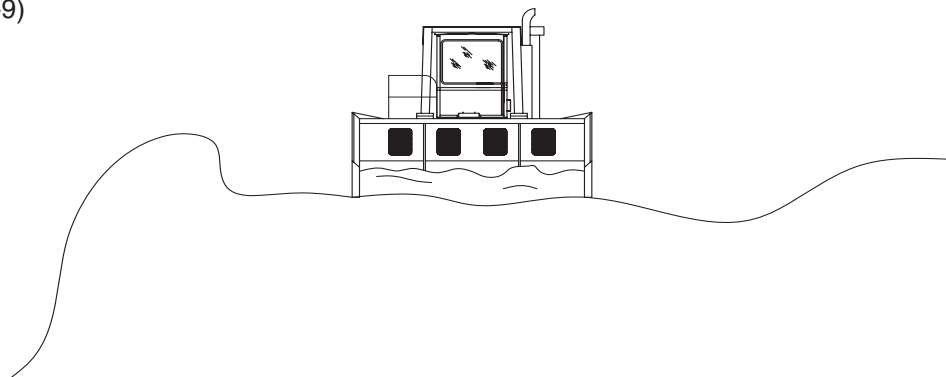

Figure 5-9
3. Do not cut in one slot only, keep the pile as level as possible (See Figure 5-9)